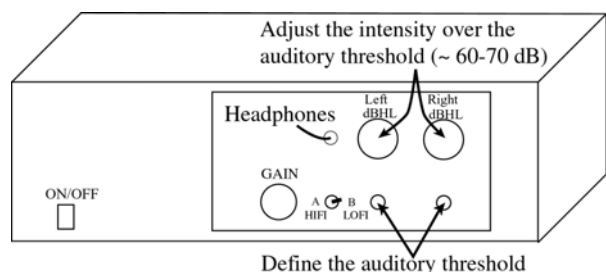

Figure 5 Audio attenuator.
Ronny's box (Figure 5) is located in the rack on the left side of the stimulus computers. When using audio attenuator follow these steps:
- Set the desired decibel level over the threshold (usually 60-70 dB) with the upper knobs (see Figure 5).